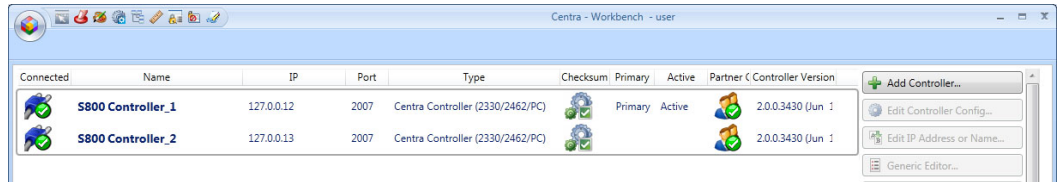

Figure 69 Workbench Controller Screen
2. Open Workbench and open the Configuration page. This will display the connected controllers including their IP address and status (see Figure 69).